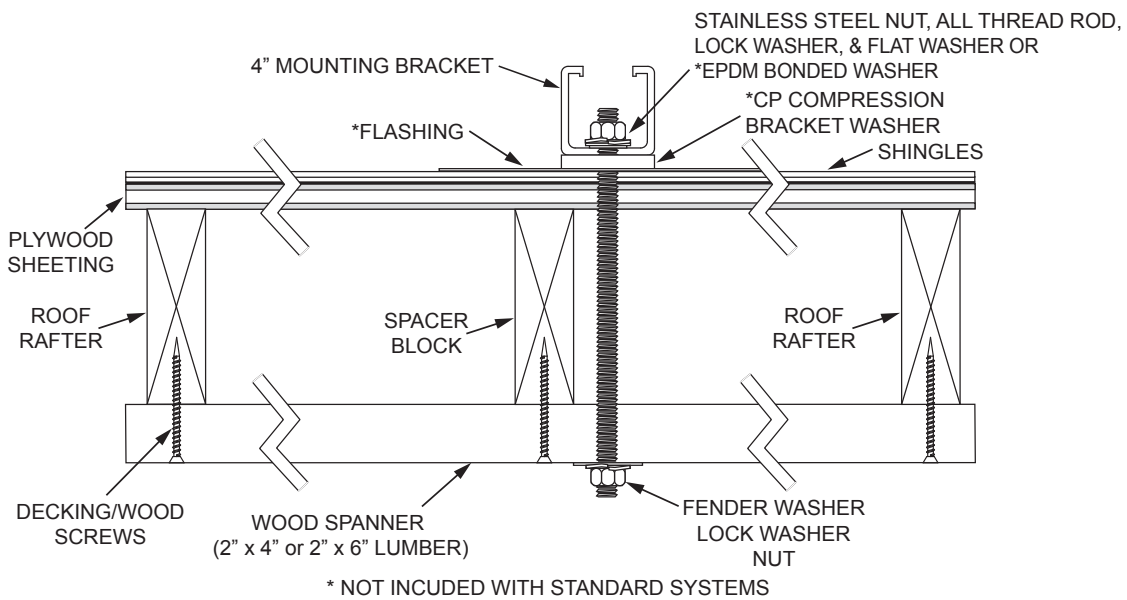

Figure 13.
3. The compression bracket washer (not included with Standard Systems) is positioned over the flashing seal with the concave side towards the seal. See Figure 13.
6. Fabricate spanners, one for each mounting bracket, using a 2" x 4" or similar lumber. Spanners must be long enough to span at least two rafters. In the attic or crawl space drill a 5/16" hole through each spanner and insert the all-thread through it. Secure each spanner to the rafters with decking or wood screws. See Figure 13.
7. Fabricate spacer blocks, one for each mounting bracket, using a 2" x 4" or similar lumber the same width of the rafter next to each all-thread. Place spacer blocks next to the all-thread between the spanner and roof. Secure each spacer block to the spanners with decking or wood screws. Spacer blocks are necessary to avoid deformation of the roof. See Figure 13.